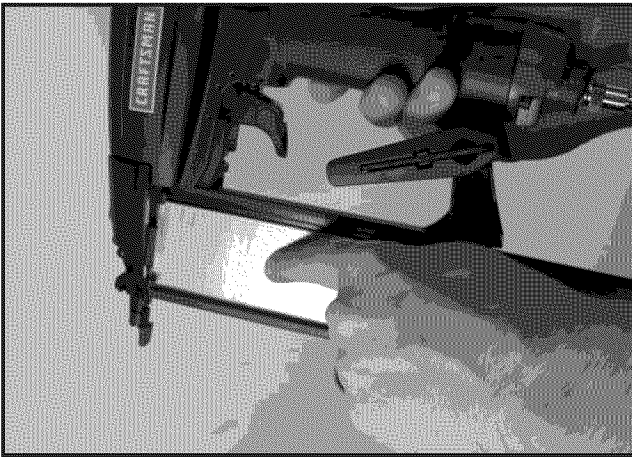

Figure 5—Load Magazine
- Insert fasteners into magazine. Position fasteners at bottom of magazine with head towards top of tool. (See Figure 5)